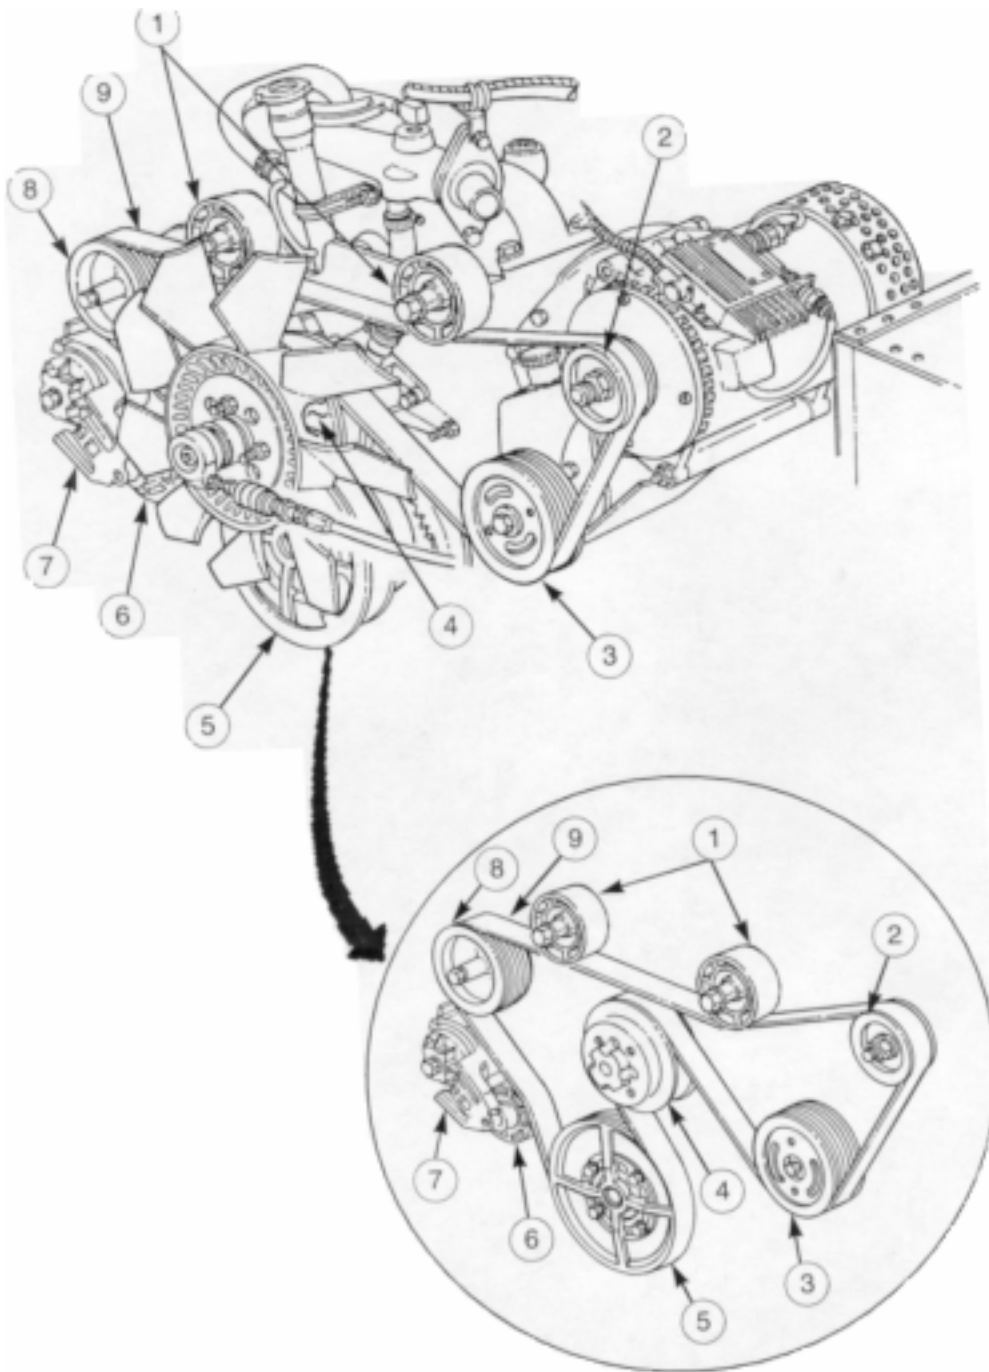
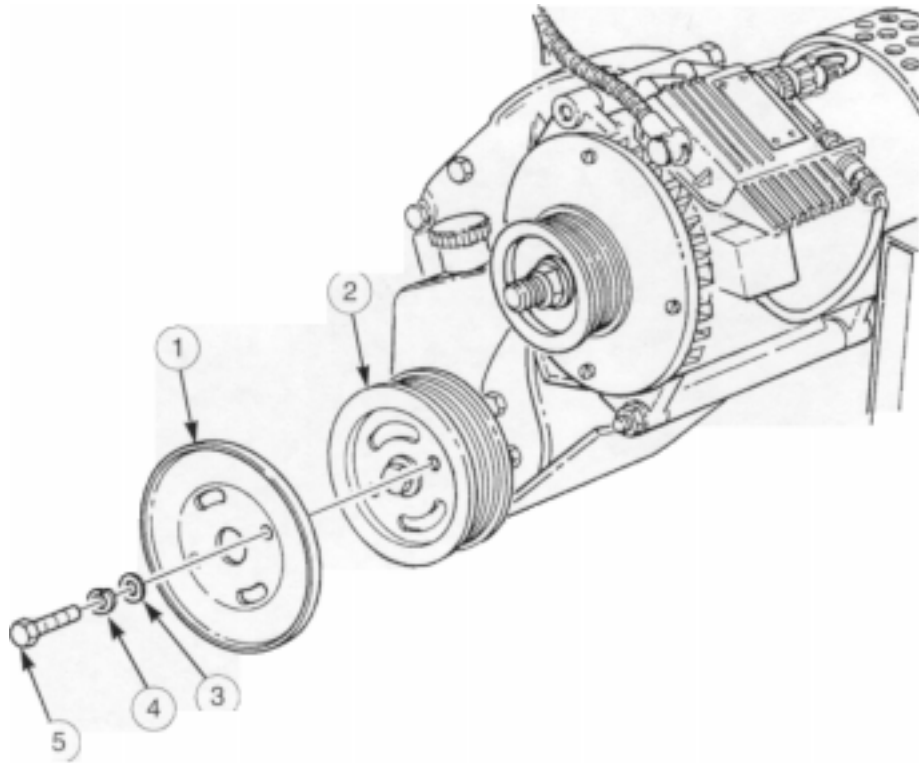

Figure 1
Figure 4
3. Install 3/8-in. drive breaker bar on belt tensioner (7) and move tensioner (7) clockwise to loosen serpentine belt (9) as shown in figure 1.
4. Remove serpentine belt (9) from power steering pulley (3), alternator pulley (2), water pump pulley (4), crankshaft pulley (5), air conditioning compressor pulley or idler pulley (8), two upper idler pulleys (1), and belt tensioner pulley (6). Release belt tensioner (7).
1. Remove two screws (5), lockwashers (4), washers (3), and power steering pulley flange (1) from power steering pulley (2) as shown in fig. 4.
22. Install serpentine belt (9) as shown in figure 1, and ensure belt (9) engages in all pulley grooves.
24. Start engine and idle for a few minutes. Check that serpentine belt (9) is tracking good on all pulleys.
25. Apply sealing compound to threads of screws (5) and install power steering flange (1) on power steering pulley (2) with two washers (3), new lock washers (4), and screws (5) as shown in figure 4.